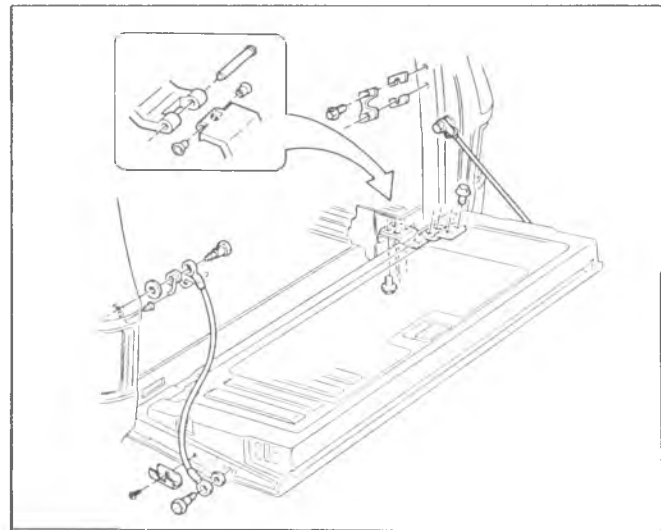

Fig. 55—Endgate, Hinges and Support (14)
1. Lower endgate, then remove four bolts securing hinge to body on each side. See figure 55. Disconnect wiring harness, if so equipped.
disconnect support cables from endgate. See figure 55.
1. Lower endgate and disconnect hinge to be replaced by removing hinge-to-body bolts. See figure 55.